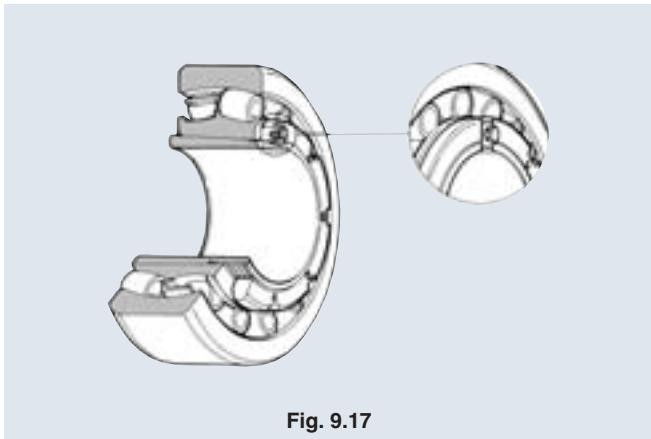

Fig. 9.17
(9) When a large bearing is installed to a shaft, its outer ring will be deformed by its own weight into an elliptical form. The clearance measurement at the lowest point on a deformed bearing will be greater than a true clearance. Remember that a radial clearance value measurement at this point will result in excessively large tightening allowance.
(10) The adapter used on a large bearing whose bore number is 44 or greater is a lock plate type (**Fig. 9.17**). For this arrangement, first tighten the nut, then fit the lock plate into the cutout on the nut. In this case too, do not loosen the nut to allow the cutout to match the lock plate. Once the lock plate is seated in the cutout, secure the adjustment with a spring washer and a hexagonal nut.